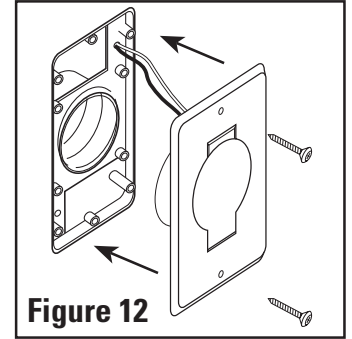

Figure 12
3. Align the inlet screw holes with the mounting plate holes and press the inlet into place, guiding any extra wire back through the mounting plate as you go. Attach wall inlet to mounting plate with provided screws (**Figure 12**).
4. Align the inlet screw holes with the mounting plate holes and press the inlet into place, guiding any extra wire back through the mounting plate as you go. Attach wall inlet to mounting plate with provided screws (**Figure 12**).
8. Align the inlet screw holes with the mounting plate holes and lightly press the inlet into place, guiding any extra wire back through the mounting plate as you go. Attach wall inlet to mounting plate with provided screws making sure mounting plate is properly seated in hole (**Figure 12**).